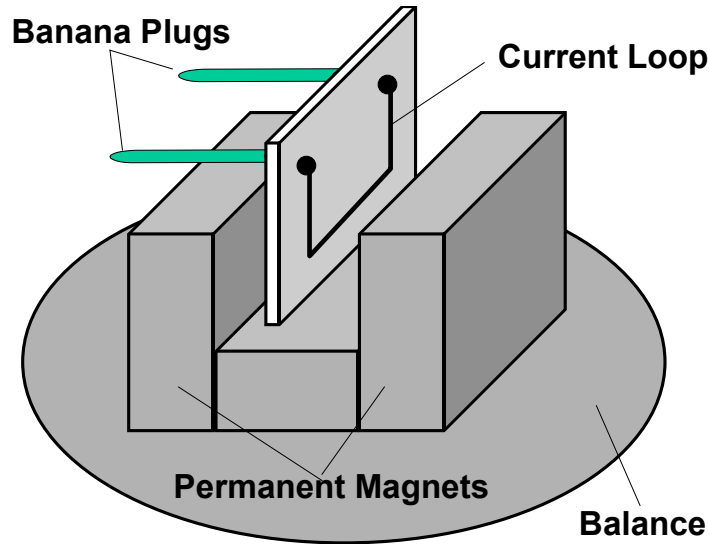

Figure 1 Current balance for measuring the magnetic force.
2. Place the magnetic assembly on the balance as shown in Figure 1. Position the lab stand so the horizontal portion of the current loop passes through the pole region of the permanent magnets. The height of the main unit on the lab stand can be adjusted by sliding unit along the pole. The current loop shouldn't touch the magnets.